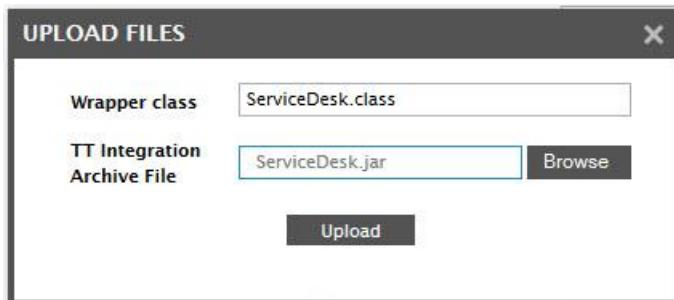

Figure 5.2: Uploading the TT integration jar file to the eG manager
11. The implementation of eG integration with ServiceDesk exists in a Java class file named **ServiceDeskPlusHelper.java**. Additionally, the API files and library files that support this class file are jarred in **ServiceDesk.jar** file. In eG, this jar file is referred to as the **TT integration archive file**. By default, the implementation class file and the jar file are bundled with the eG manager and are available in the **<EG\_INSTALL\_DIR>\manager\lib** directory on the eG manager host. However, if later, changes are made to these files, you will have to re-upload them to the eG manager. In such a case, set the **Do you want to upload the supporting archives?** flag to **Yes**, and click the **Upload** button alongside. This will invoke Figure 5.2.